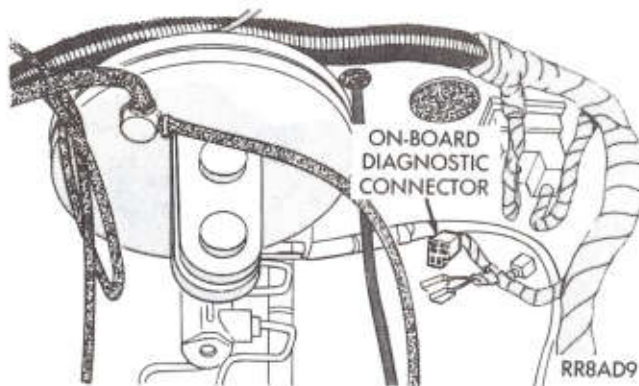

Fig. 23—Diagnostic Connector
(1) Connect Diagnostic Tool to the diagnostic connector located in the engine compartment near the SMEC (Fig. 23).
(2) Start the engine if possible, cycle the transmission selector and the A/C switch if applicable. Shut off the engine.
(3) Turn the ignition switch on-off-on-off-on within 5 seconds. Record all the diagnostic codes shown on the Diagnostic Tool, observe the check engine lamp on the instrument panel the lamp should light for 3 seconds then go out (bulb check).